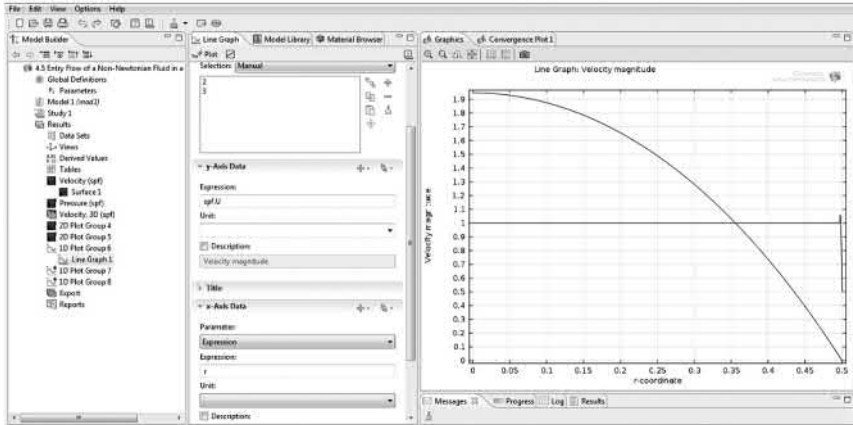

FIGURE 4.4 Velocity at inlet and outlet.
- Now, select the top boundary on the rectangle graph. Click on the “+” sign at the top right corner, this will add *boundary 3* in the *Boundary Selection* tab. Click on the “+” sign in the *x-axis* data and select *r-coordinate* (*r*). Plot the *Line Graph*. A graph will appear giving the profile of *Velocity magnitude* versus *r* for boundary 3 as shown in Figure 4.4.